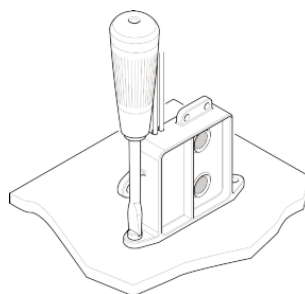
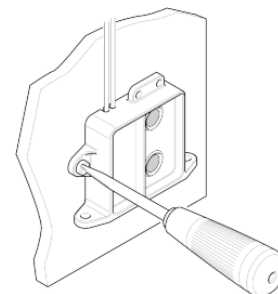

Fig 1 Using Switch Base
Fig 2 Using Mounting Ears
- Mount the switch vertically as shown in fig. 1 (wires located uppermost). Locate the switch as close to the pump as possible to ensure the same water level.
- Use switch base (Fig. 1) or mounting ears (Fig. 2) as a template to mark pilot holes in mounting block.